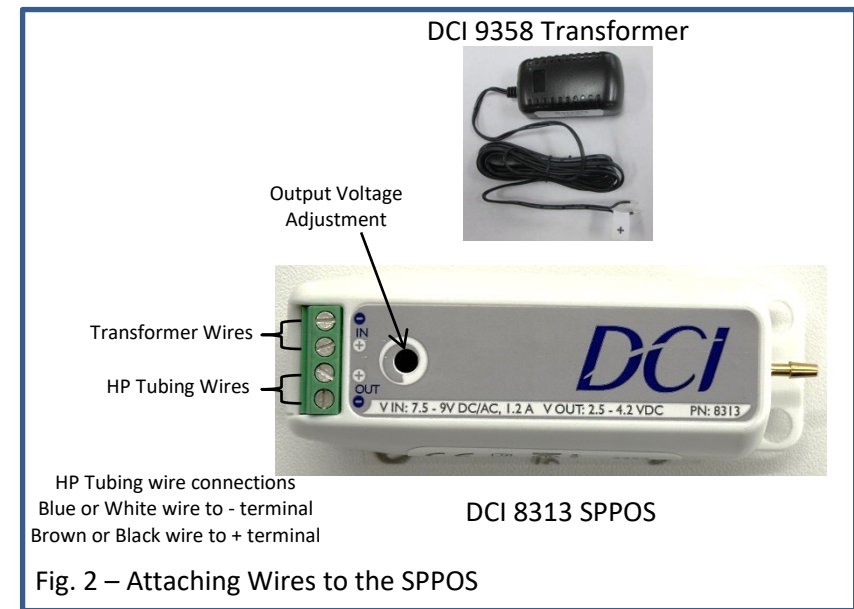

Fig. 2 – Attaching Wires to the SPPOS
- Attach the transformer wires and the handpiece tubing wires to the SPPOS terminals as shown in Fig. 2.
- The new DCI SPPOS has a voltage adjustment feature. This feature allows the user to set the necessary output voltage based on the handpiece manufacturer requirements. Use a #2 slotted precision screwdriver to adjust the SPPOS output voltage by accessing the adjustment potentiometer and turning clockwise to increase or counterclockwise to decrease the output voltage. Output voltage is measured at the terminals labeled "OUT". See Fig. 2.